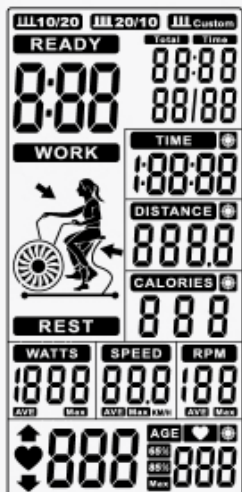
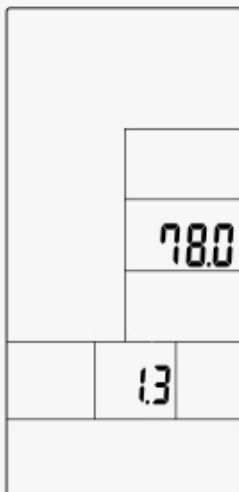
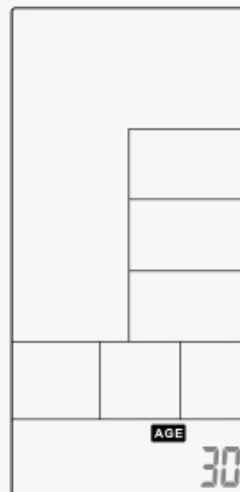

Figure 1
Figure 2
Figure 3
1. Turn the L-Type Handle (96) counter-clockwise to loosen it. Insert the Saddle Tube (19) into the Main Frame (37), adjust it to the required height, then turn the handle clockwise to secure it.
2. Attach the Saddle (11) to the Saddle Tube (19) and tighten securely using Spanner (D). Tighten both nuts at the same time, see fig. 1.
1. When POWER ON, LCD will full display 2s (Figure 1) with long beep sound, then display wheel diameter 1s in DIST area (Figure 2). Then enter into AGE setting mode, the AGE flashing to be set (Figure 3). Press the UP/DOWN to set age and press ENTER to confirm then go to Standby mode.